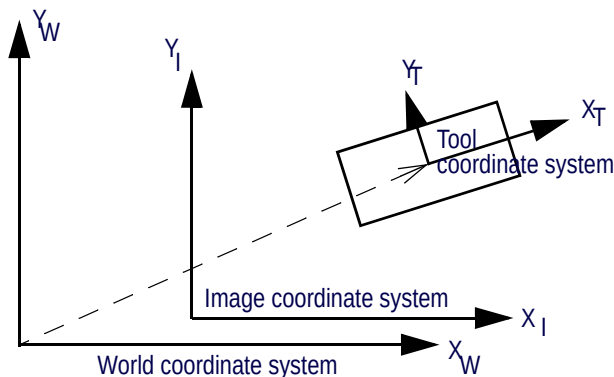

Figure 235 Image-Based Calibrated Mode: Relationship between Tool and World Coordinate Systems
- **Positioning coordinate system:** In the Image-based Calibrated mode, the tool is positioned with respect to the World coordinate system as shown in Figure 235.